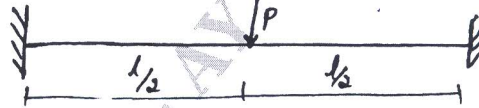

Fig Q2(b)
b. A bar of length L, cross section area A and modulus of elasticity E, is subjected to distributed axial load  $q = cx$ , where c is a constant as shown in Fig Q2(b). Determine the displacement of the bar at the end using Rayleigh – Ritz method.